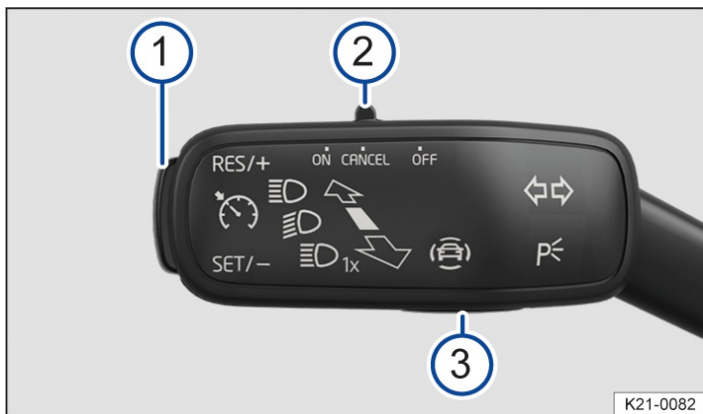

Fig. 1 On the left side of the steering column: Switch and buttons for operating the speed limiter.
1. Slide the → *fig. 1* (2) switch into the **ON** position.
1. While driving, press the → *fig. 1* (1) button into the **SET/-** position.